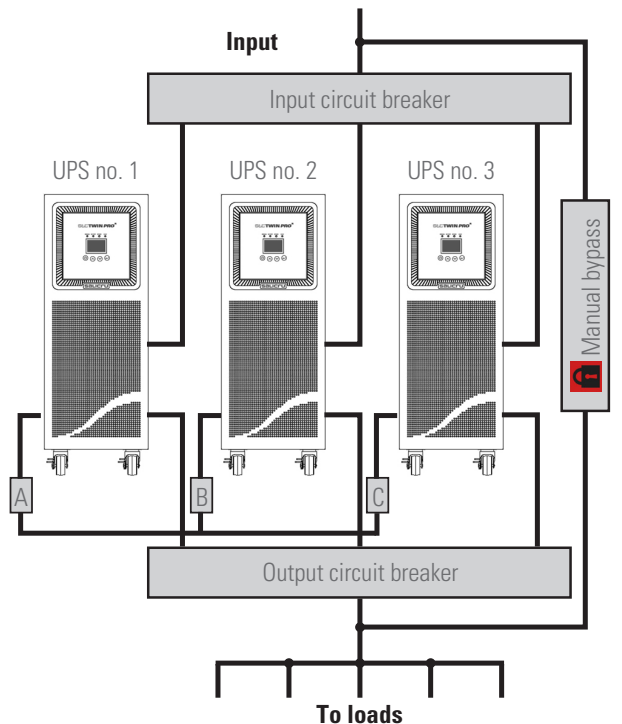

Fig. 19. Parallel installation of a distribution board with manual bypass.
- When installing the system in parallel, it is necessary to provide it with a board equipped with individual input and output protections, as well as a manual bypass with mechanical locking, see Fig. 19.
- Fig. 19 shows a conceptual representation of a distribution board with manual bypass for a parallel system, representative for a single device, with the number of switches adapted.